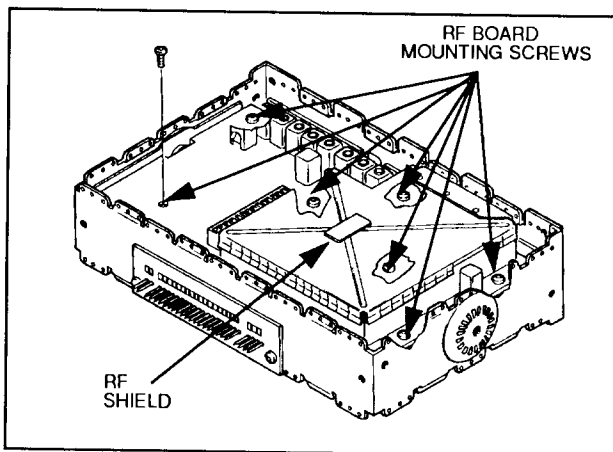

Figure 5.
- (1) After the P.A. heatsink has been removed, pry off the RF shield (figure 5). Be careful not to over bend any one corner or side.
- (2) After removing the RF shield then remove all the
RF board mounting screws and take out the RF board (figure 5).